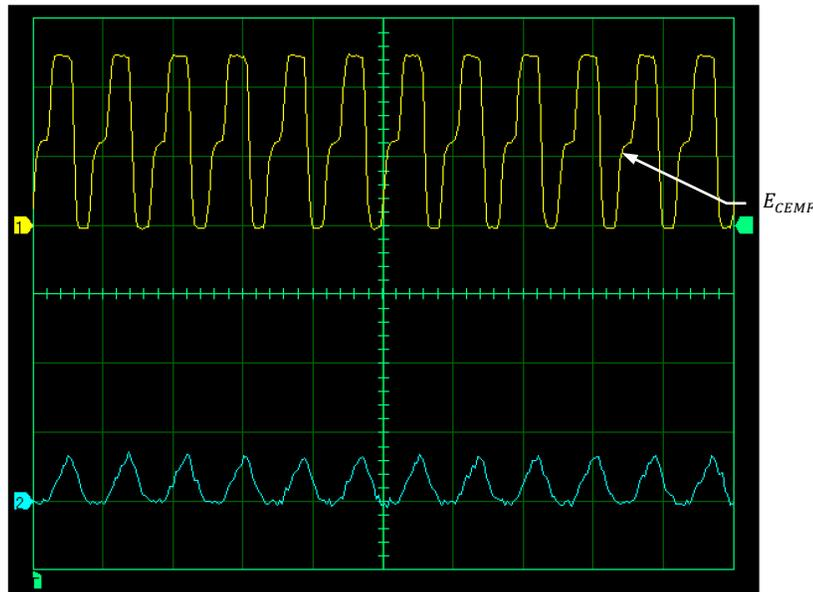

Figure 7. The dc motor counter-electromotive force ( $E_{CEMF}$ ) is visible in the armature voltage waveform during the deceleration.
23. Suddenly decrease the duty cycle from 60% to 40% while observing the measured values of the dc motor speed, torque, mechanical power, armature voltage, armature current, and electrical power, as well as the armature voltage and current waveforms. Notice that the counter-electromotive force ( $E_{CEMF}$ ) appears in the armature voltage waveform when the duty cycle is decreased suddenly to decrease the motor speed, because the armature current momentarily decreases to zero. This is shown in Figure 7.